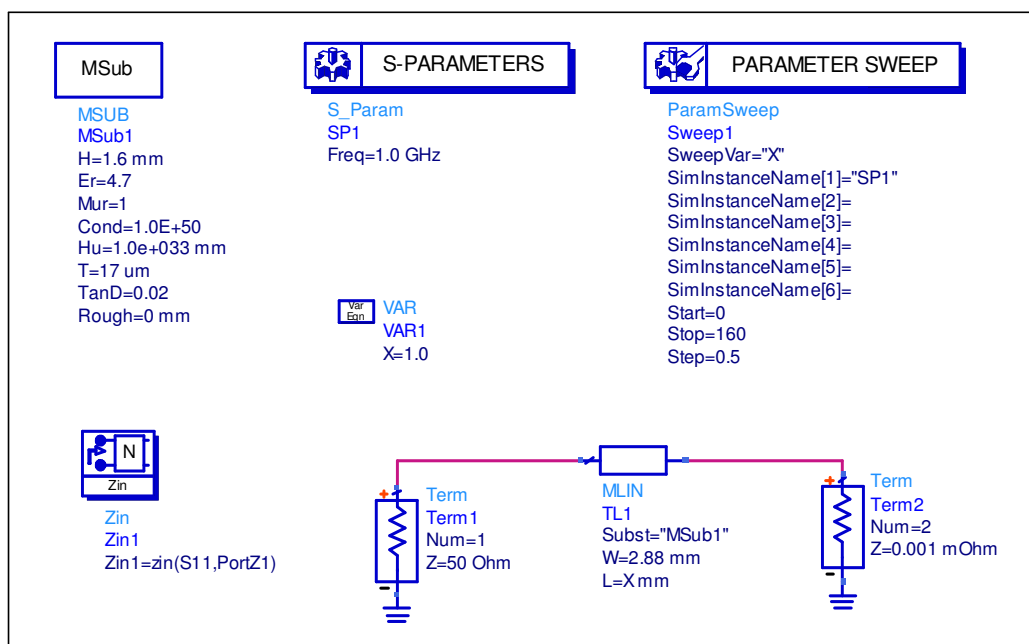

Figure 10 - 50 ohm transmission line terminated by a short.
3. Draw a 50Ω transmission line terminated by a short, as shown in Figure 10.